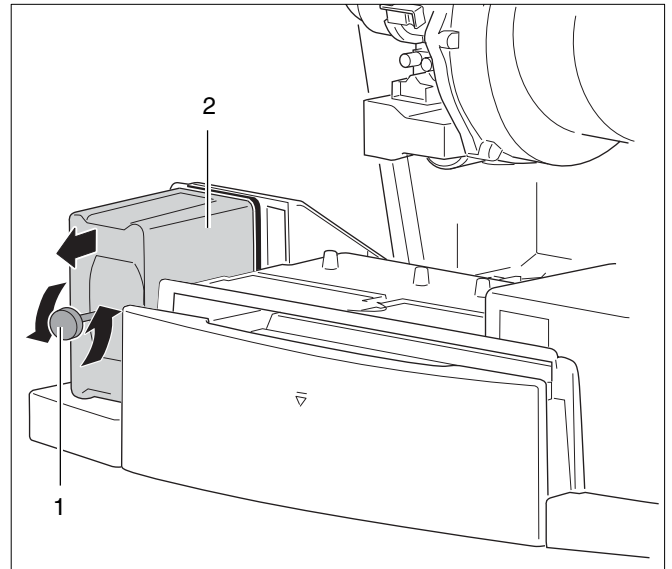

Fig. 43 Dismantling the UBA3
- Loosen the fastening screw of the UBA3 (see fig. 43, pos. 1).
- Remove the UBA3 by pulling it forward as indicated by the arrow (see fig. 43, pos. 2).